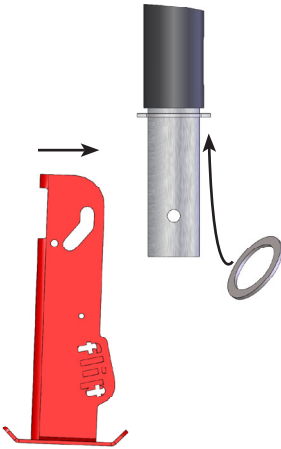

Figure 5
c) Slide the spacer ring up the inner jack tube and hold it up while you position the jack foot to bolt it on. Position the jack foot around the inner jack tube so that the slot at the top lines up with the 1/2" holes drilled in the jack tube (See Figure 5).